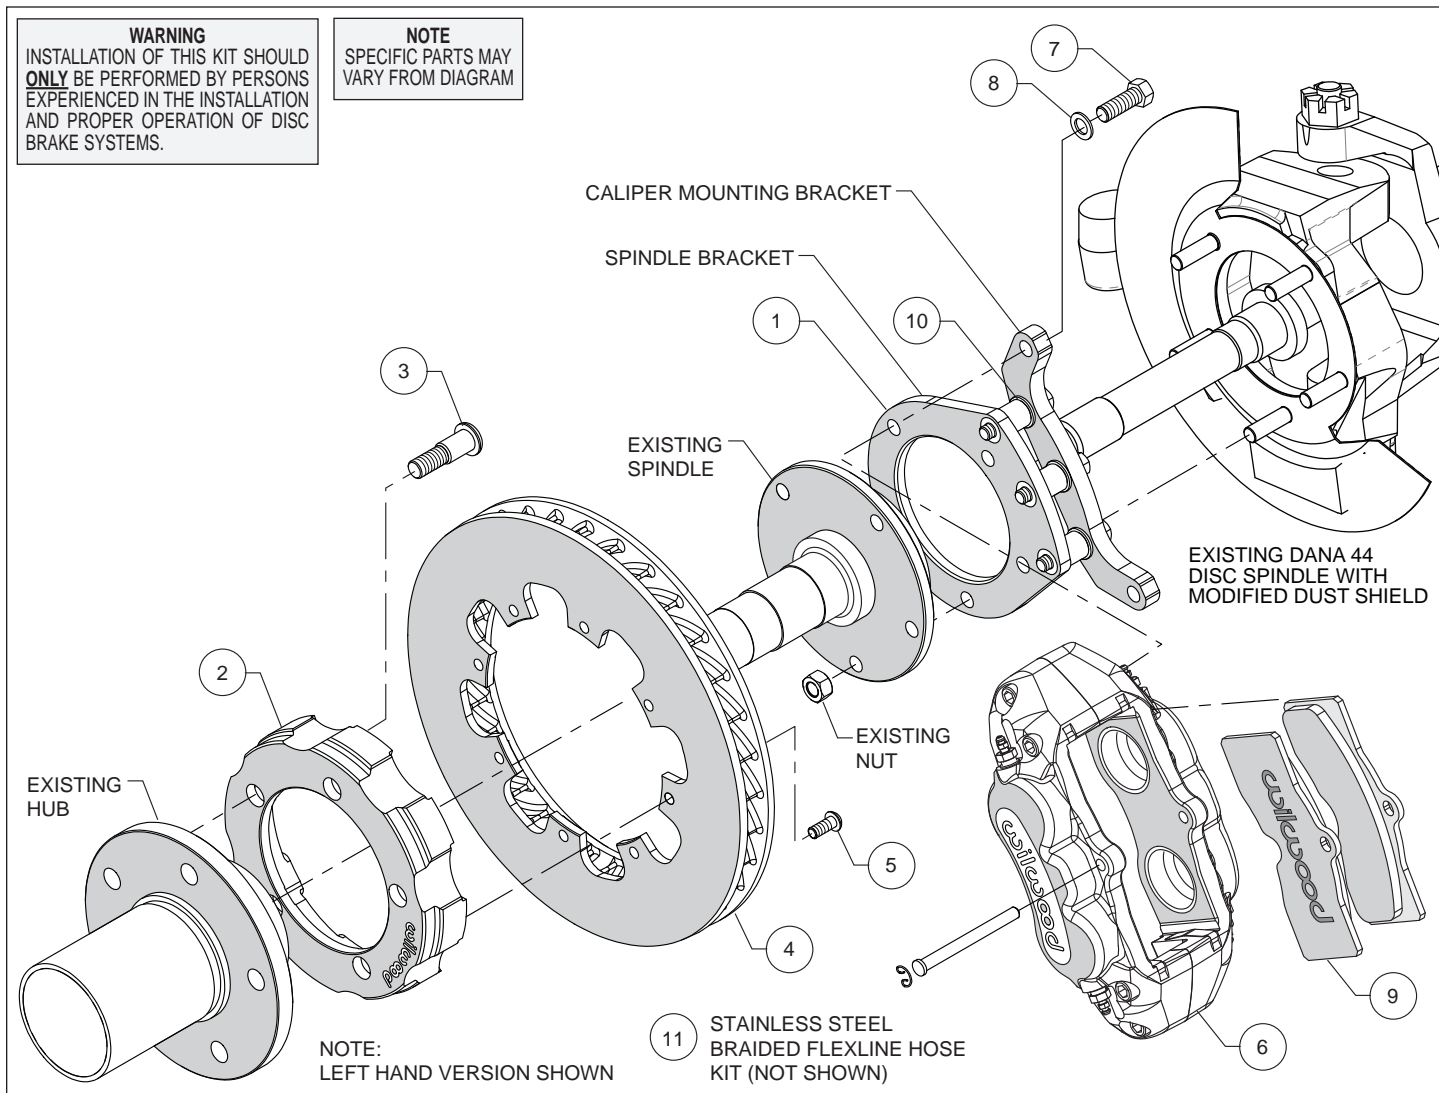

Figure 1. Typical Installation Configuration
Assembly Instructions (numbers in parenthesis refer to the parts list and Figure 1 on the preceding pages): **CAUTION: All mounting bolts must fully engage clinch nuts.** Be sure to check that all bolts are either flush or protruding through flanged side of clinch nut after shimming, Figure 4.
- The caliper mount bracket (1) has been assembled at the factory for alignment purposes. Orient the bracket as shown in Figure 1 and Photo 1, and install onto the knuckle. Install the OEM spindle over the bracket and secure with OEM nuts, Photo 2. Temporarily tighten the mounting nuts. **NOTE: The bracket must fit squarely against the knuckle.** Inspect for interference from casting irregularities, machining ridges, burrs, etc. Remove nuts one at a time, apply red *Loctite*[®] 271 to the threads and torque nuts to OEM specification.
- Orient the hat (2) and the OEM hub as shown in Figure 1 and Photo 3. **NOTE: The hat must fit flush against the hub or excessive rotor run out may result.** Install the wheel studs (3) thru the holes in the hat and press into the existing hub. **NOTE: We recommend this procedure be performed by a qualified machinist.**
- Orient the rotor (4) and the hat/hub assembly as shown in Figure 1 and Photo 4. Attach rotor to hat using bolts (5). Using an alternating sequence, apply red *Loctite*[®] 271 to the threads, and torque to 25 ft-lbs.
- NOTE: Please reference the caution statement at the beginning of the assembly instructions.** Mount the caliper (6) onto the caliper mounting bracket (1) using bolts (7) and washers (8), as shown in Figure 1. Temporarily tighten the mounting bolts and view the rotor (4) through the top opening of the caliper. The rotor should be centered in the caliper, Photo 5. If not, adjust by adding or subtracting shims (10) between the spindle bracket (1) and caliper mounting bracket, Figure 1. Always use the same amount of shims on each of the three mounting bolts. **NOTE: The end of each bolt must be flush with or protruding from the head of the clinch nut.** Once the caliper alignment and clinch nut engagement are correct, remove the bracket-to-bracket bolts one at a time, apply red *Loctite*[®] 271 to bolt threads, and torque to 40 ft-lb. Then remove the caliper mount bolts one at a time, apply red *Loctite*[®] 271 to threads, and torque to 60 ft-lb.